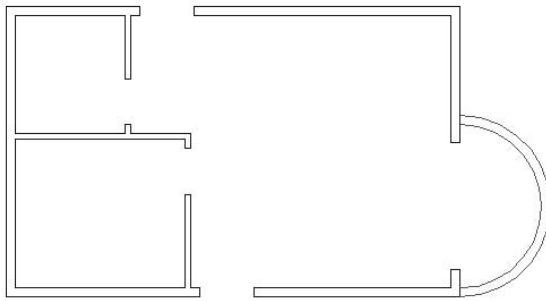

FIGURE B.11: The floor plan with all layers turned off except Walls and Balcony
2. Make the Walls layer current. Turn off all the other layers except Balcony and Walls. Your drawing should look like Figure B.11.